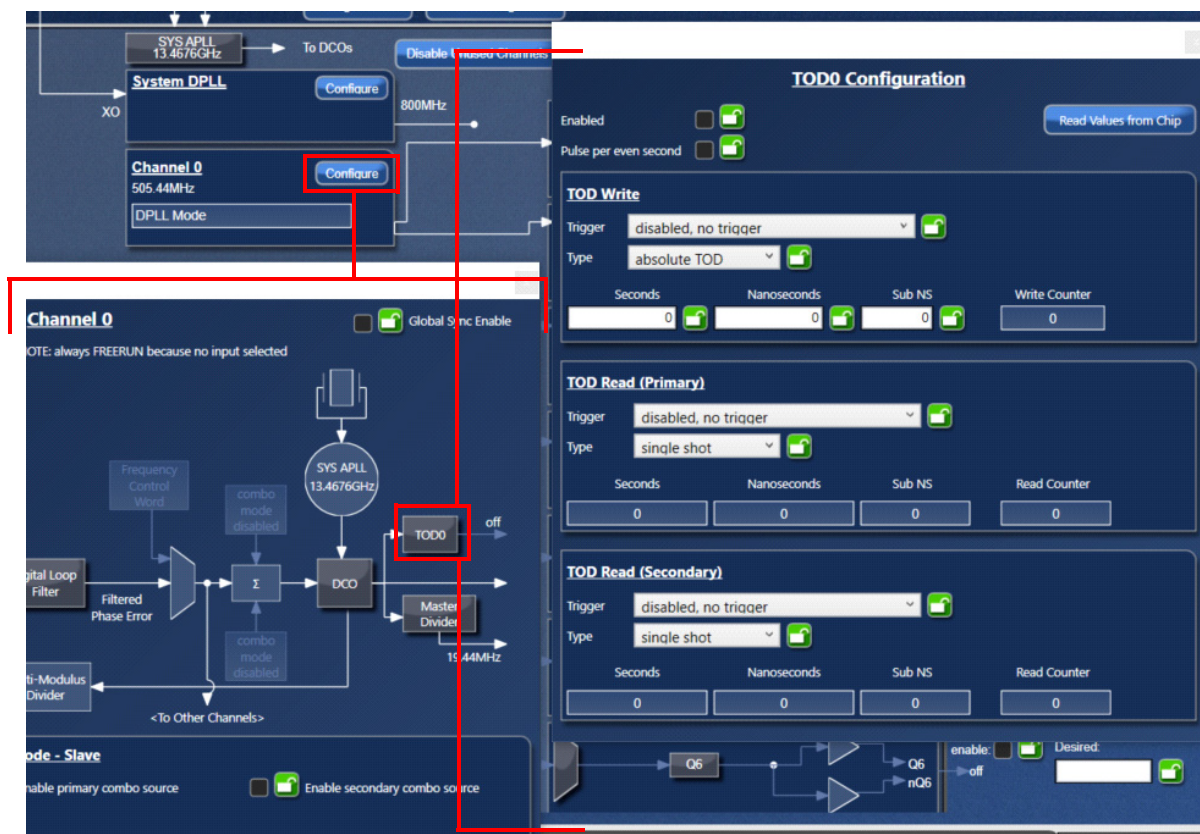

Figure 22. Time of Day (ToD) Configuration Window
- DPLL0 to DPLL3 are connected to a ToD counter, which is used to time-stamp external events (see Figure 22)